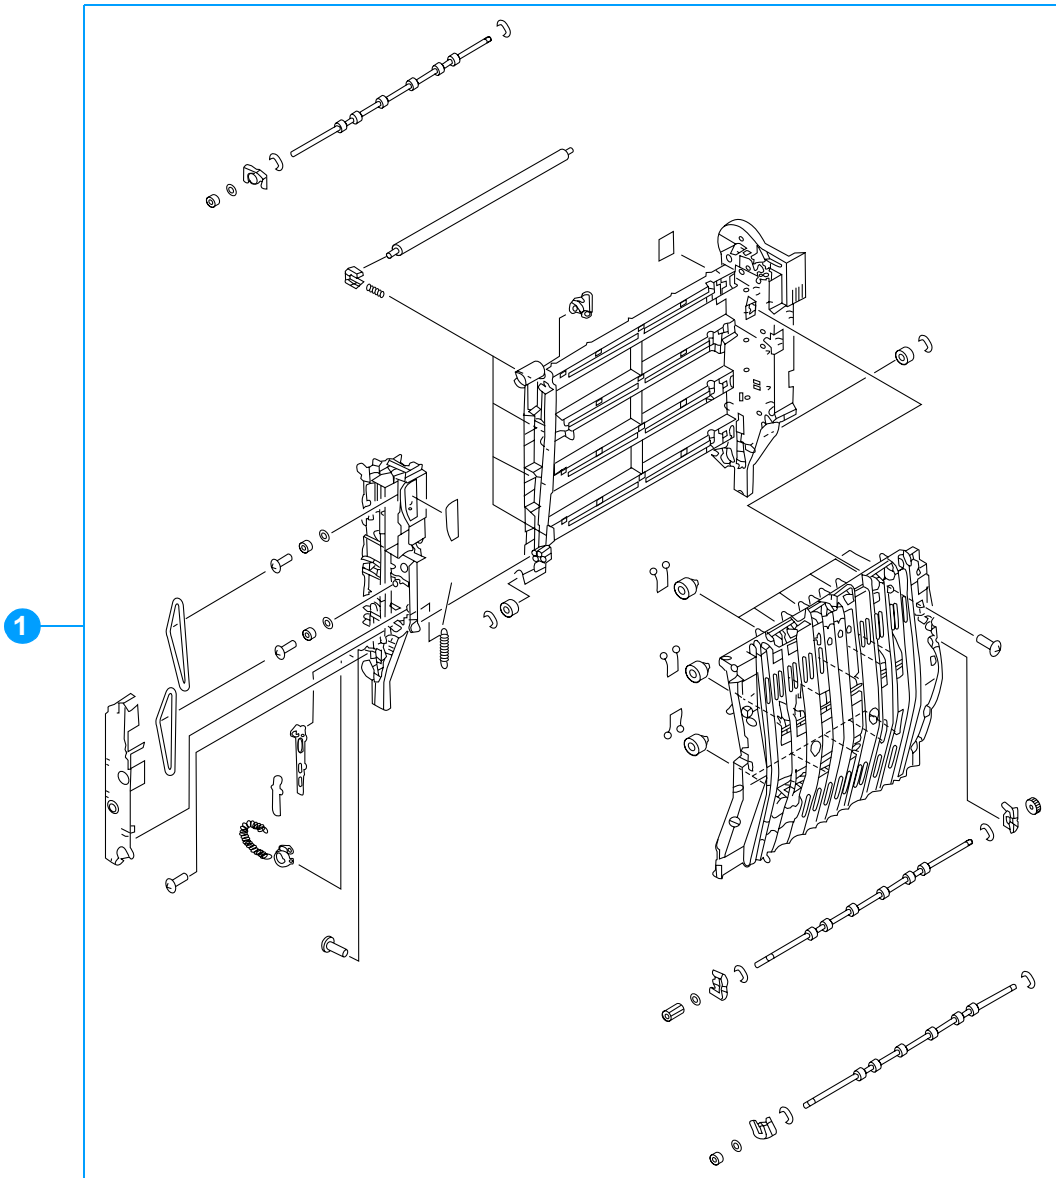
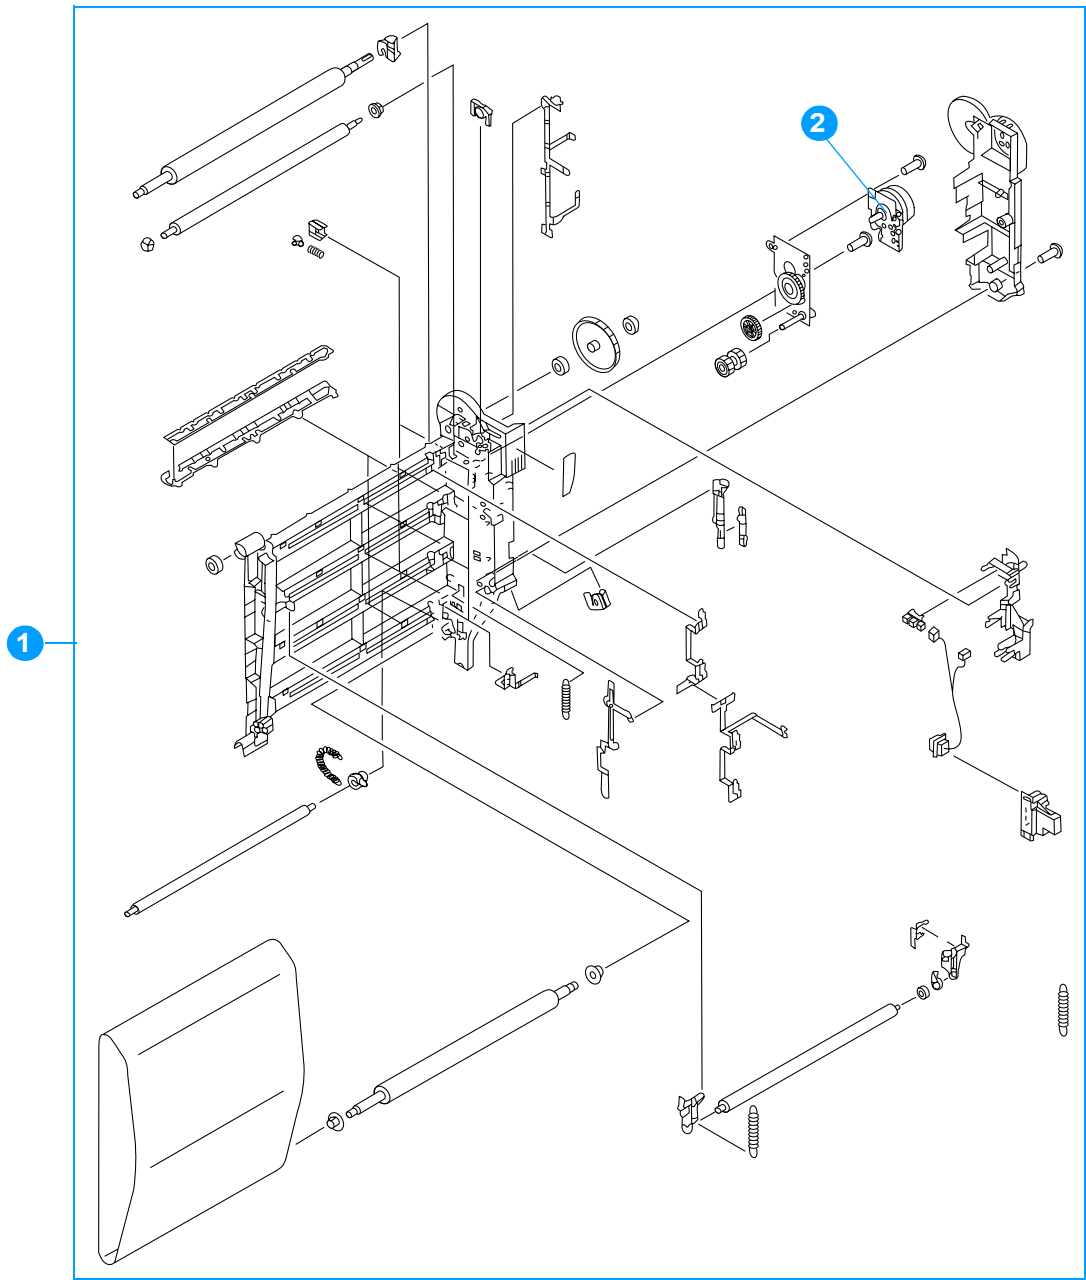

Figure 8-22 ETB assembly (1 of 2)
Figure 8-23 ETB assembly (2 of 2)
Table 8-21 lists parts shown in Figure 8-22 and Figure 8-23. If you order a replacement ETB (item 1), you will receive all parts shown in both figures.